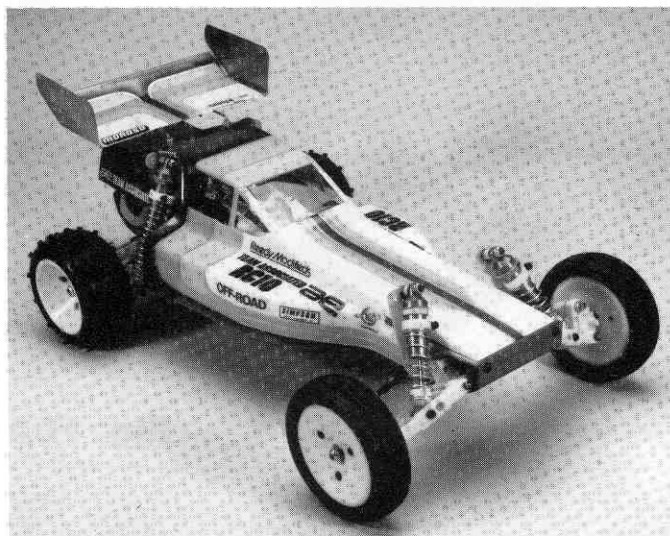

Fig. 164
□ **Fig. 164** Mount the body, with the #6332 body clips and wing, on the car, and then pat yourself on the back. **YOU DID FANTASTIC!!**